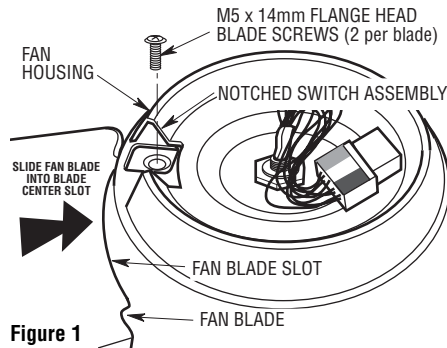

Figure 1
- 2. Rotate the notched switch assembly to expose the holes for blade assembly (Figure 1).
- 3. Slide blade through blade slot in blade housing assembly. Mount blade to fan housing using two M5 x 14mm flange head blade screws (Figure 1).